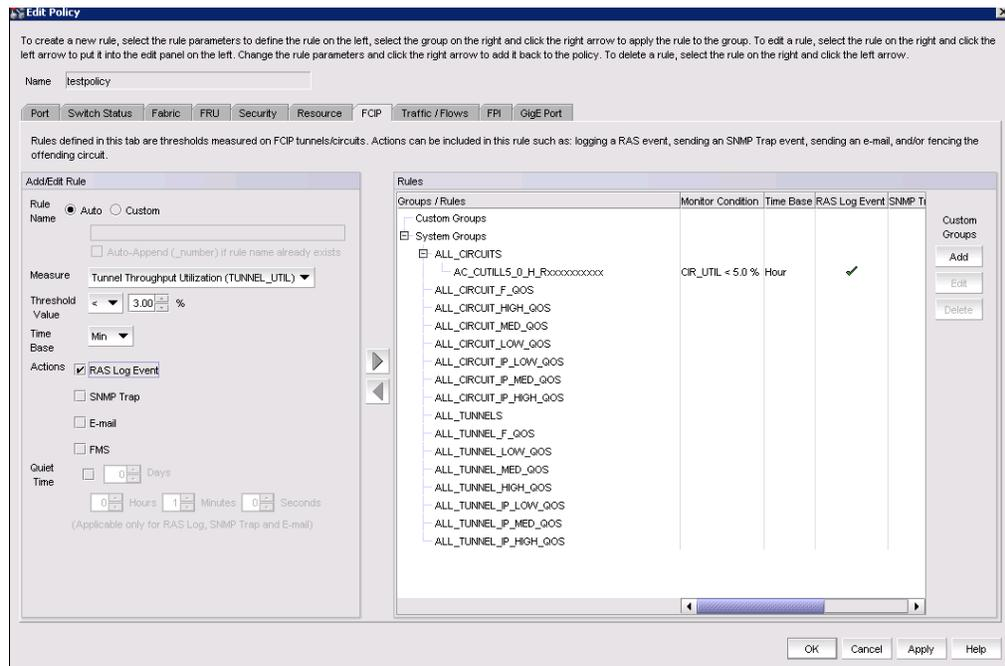

Figure 7-7 Details of MAPS configuration
- Click **OK** to add the rule to the MAPS Configuration window (Figure 7-7).